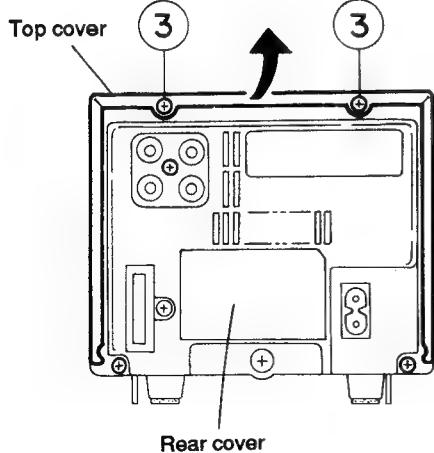

Fig. 5-6
2. From the back of the body, remove the two screws ③ retaining the top cover (See Fig. 5-6).